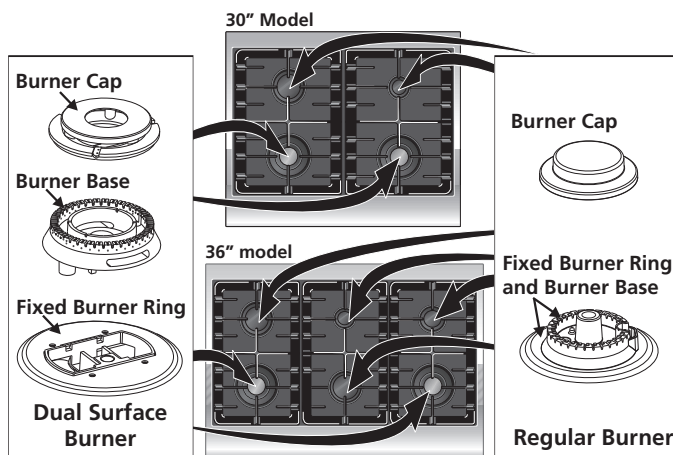
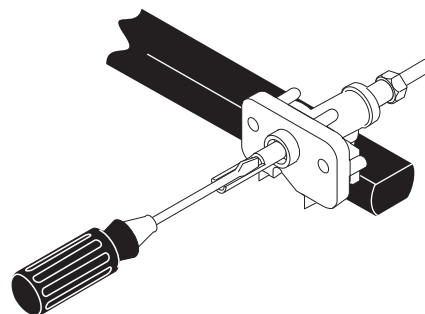
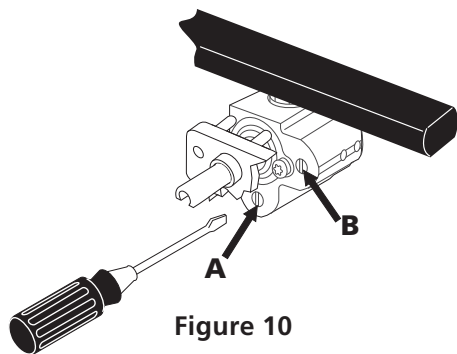

Figure 8
Figure 9
Figure 10
This range is equipped with sealed burners as shown (Figure 8). All pieces are at their place. Take note where they are. **Remove all packaging material located under the Dual Surface burner head.** Make sure the burner is properly aligned and leveled.
4. Adjust the "LOW" Setting of Regular Burner (see figure 8) on the Surface Burner Valves (Figure 9):
5. Adjust the "LOW" Setting of the Dual Burner (see Figure 8) on the Surface Burner Valve (Figure 10):